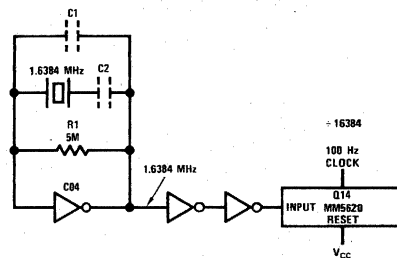

FIGURE 9. CMOS Crystal Oscillator and Divider for 100 Hz
*Figure 9* illustrates how to build a crystal oscillator using CMOS. This oscillator is also described in AN-118.